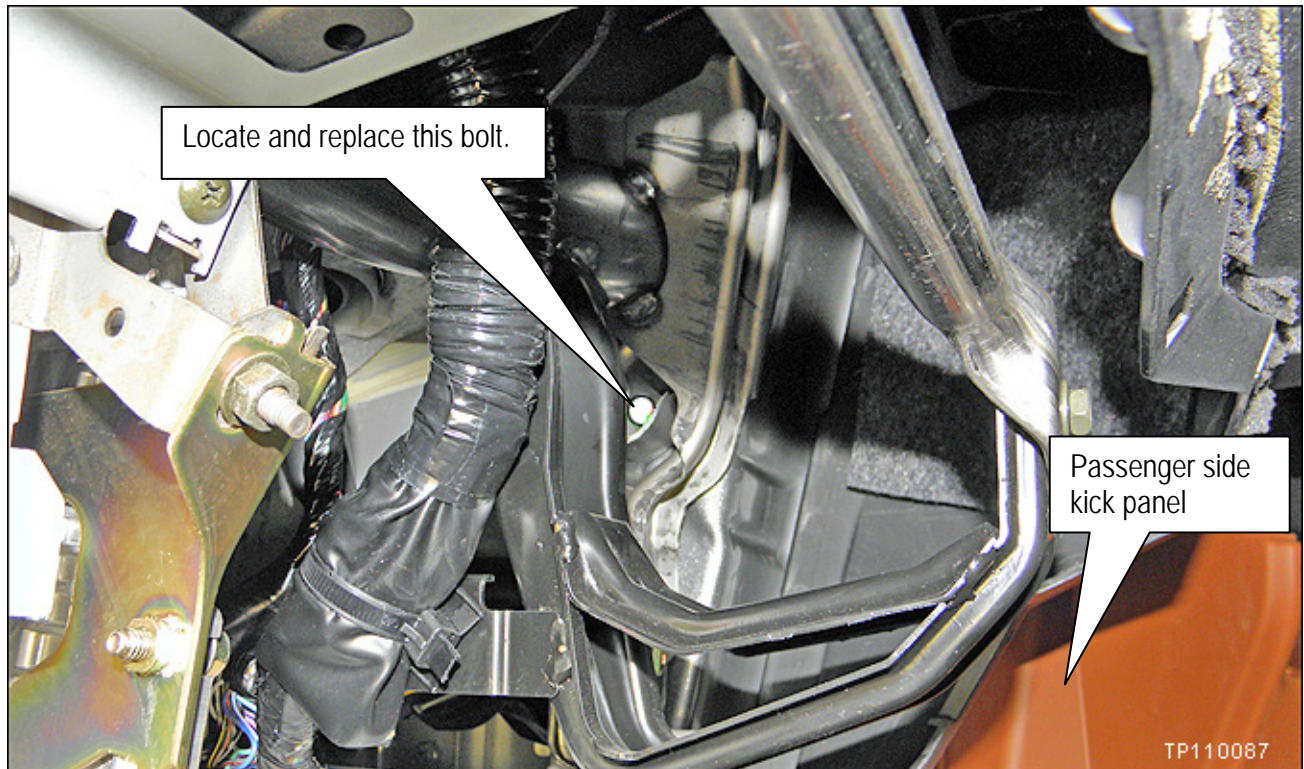

Figure 1
6. Replace the lower bolt at the RH steering member (support tube) mounting point (see Figure 1).